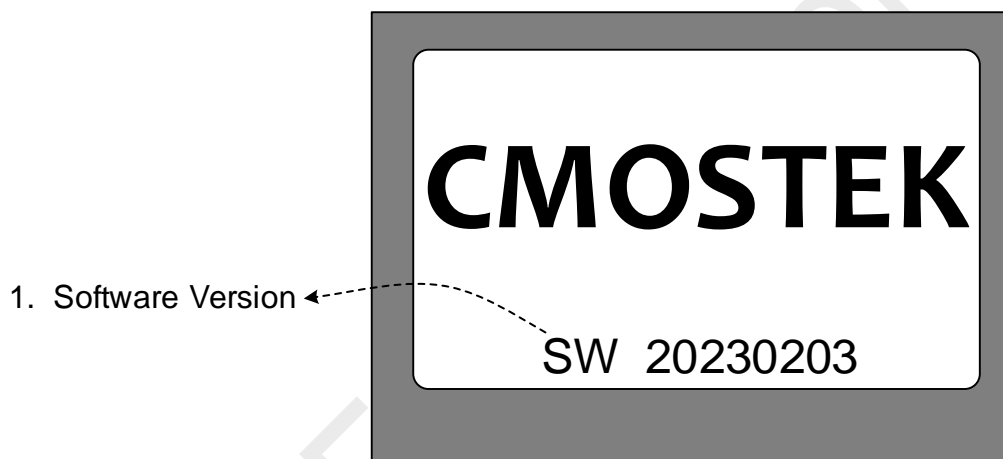

Figure 2-1. Startup Interface
- The startup interface is show in Fig. 2-1.